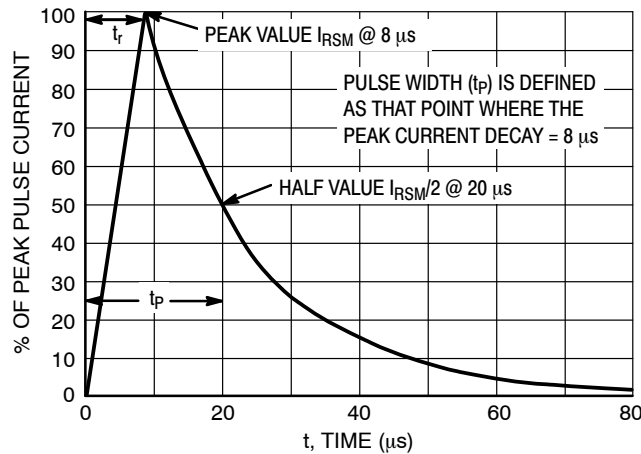

Figure 5. 8 X 20  $\mu$ s Pulse Waveform
1. Nonrepetitive current pulse per Figure 5 (Pin 5 to Pin 2).
4. Nonrepetitive current pulse per Figure 5 (Pin 5 to Pin 2).
5. Nonrepetitive current pulse per Figure 5 (Any I/O Pins).
6. Surge current waveform per Figure 5.